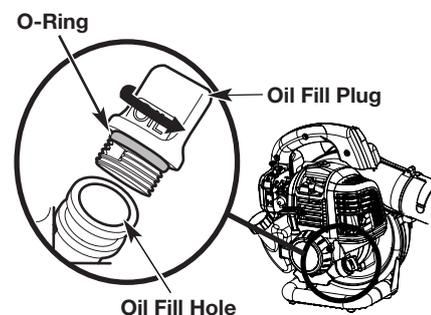

Fig. 9
3. Clean the area around the oil fill plug (Fig. 9) to prevent debris from entering the oil fill hole.
Note: Make sure the O-ring is in place on the oil fill plug (Fig. 9).
1. Clean the area around the oil fill plug (Fig. 9) to prevent debris from entering the oil fill hole.
Note: Make sure the O-ring is in place on the oil fill plug(Fig. 9).